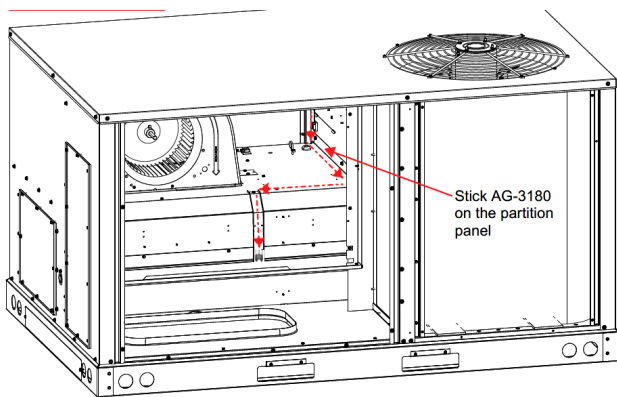

FIGURE 7B
9. Once the bracket-micro sensor assembly is mounted, route wires as shown in Figure 7B. Bundle and zip tie any excess wire, and use the supplied cord clip (PSA backing) to secure the wire to the blower deck and/or partition panel.